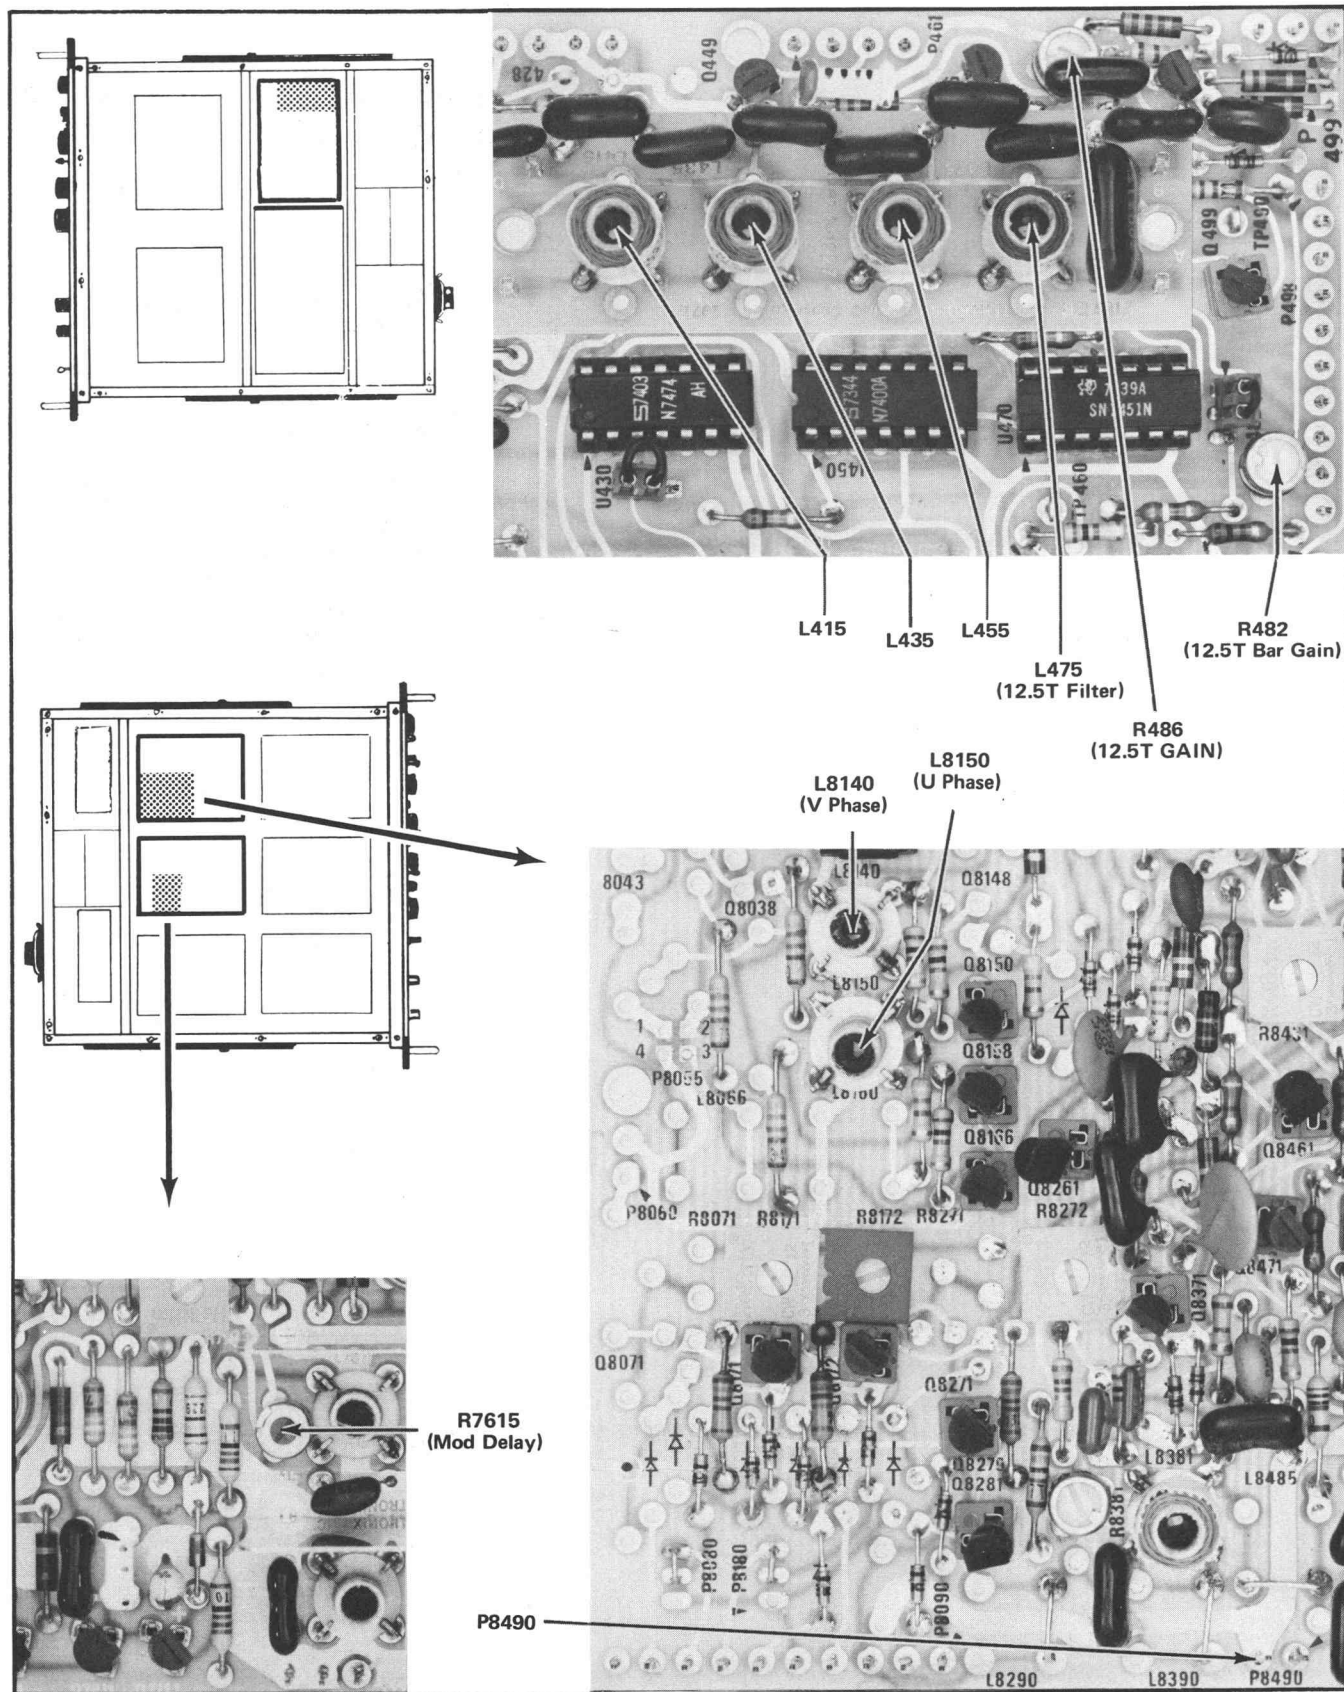

Fig. 4-14. MOD PULSE & BAR adjustments.
a. Set the 148-M to alternate MOD PULSE & BAR with the 100% PEAK WHITE signal. See Fig. 4-14 for the location of adjustments for this step. For calibration only, preset the following controls: